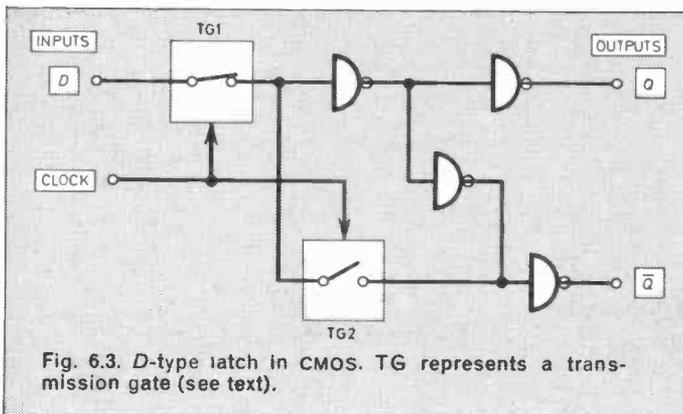
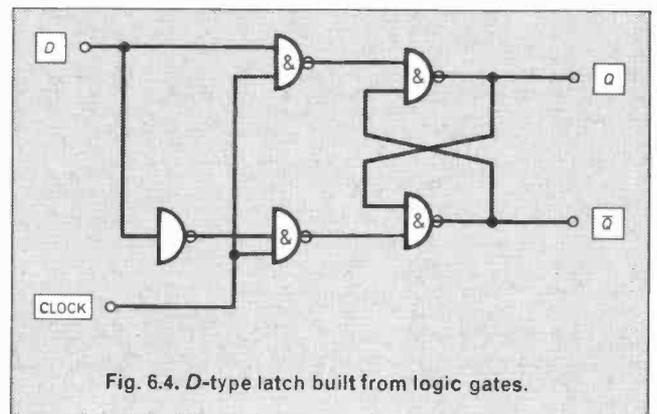

Fig. 6.3. *D*-type latch in CMOS. TG represents a transmission gate (see text).
Fig. 6.4. *D*-type latch built from logic gates.
In Fig. 6.3 a latch is built from four NOR gates and two transmission gates. We will consider the latter in more detail in Part 8 of this series. For the moment, think of the transmission gate (TG) as a switch that can be turned on or off according to the state of a control voltage.
Here the control voltage is applied to the *clock* input. When the clock input is high, TG1 is closed and TG2 is open, as shown in Fig. 6.3. In this state, output *Q* is the same as input *D*, since it is *D*, twice inverted. Output \bar{Q} is *D* inverted three times, so is the invert of *D*. Thus the circuit of Fig. 6.3 has a similar action to the more conventional flip-flop of Fig. 6.4, though it operates in a rather different way.
becomes isolated from the output side of the circuit. In the CMOS circuit (Fig. 6.3) TG1 opens and TG2 closes. The outputs remain latched in the state they were at the instant the clock input was made low. In Fig. 6.4, the low clock input to each NAND gate, ensures that their output remains high whatever the state of *D*. This being so, the flip-flop can no longer be made to change state.
The 4042 i.c. contains four *D*-type latches of the kind shown in Fig. 6.3. It also has a "polarity" input which causes the signal at the clock input to be inverted before it goes to the transmission gates. If "polarity" is 0